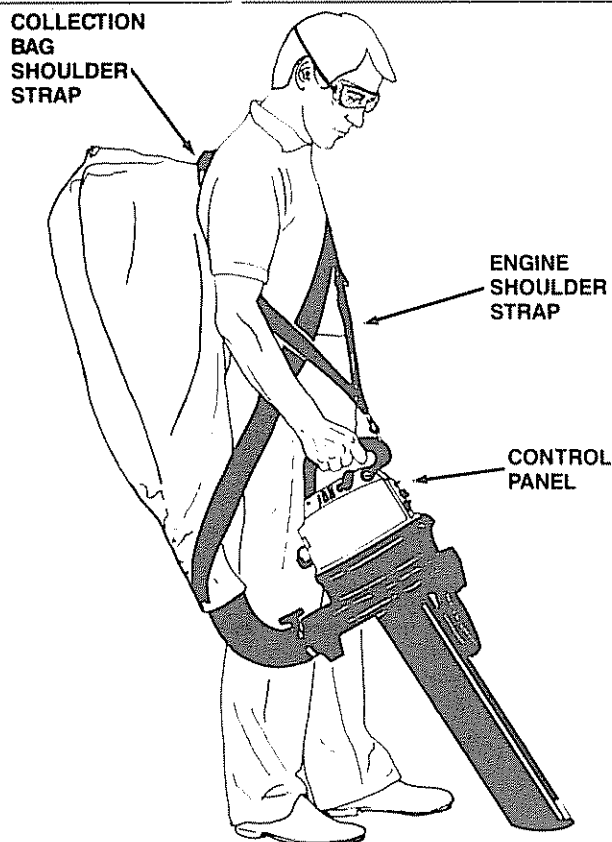

Figure 14
8. **Use the correct operating position.** (Figure 14.) Do not overreach or use from unstable surfaces such as ladders, trees, steep slopes, roof tops, etc. Keep firm footing and balance at all times.